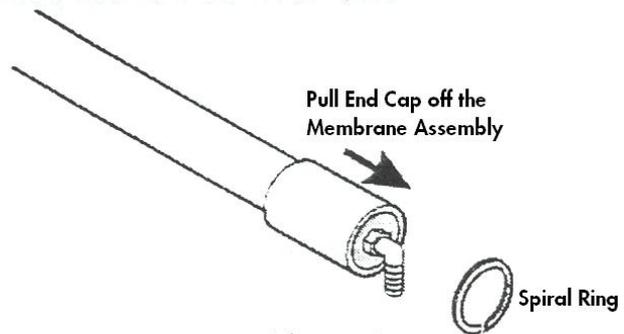

Figure 2
2. Use the flat blade screwdriver to lift the end of the Spiral Ring on the End Cap. Pull the Spiral Ring off (see Figure 2).